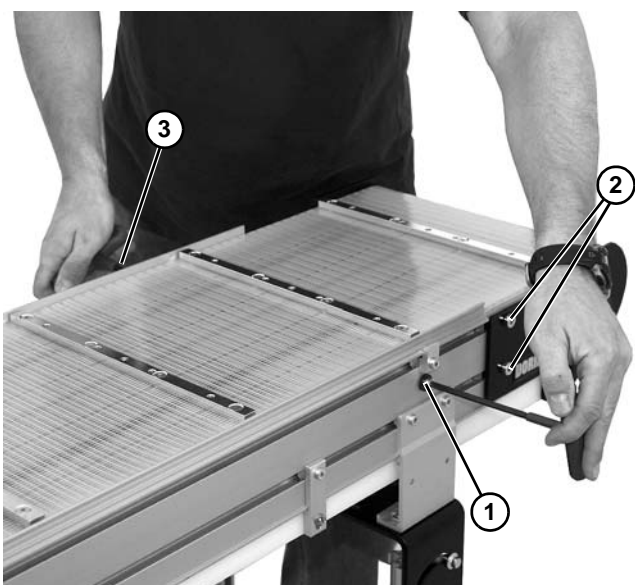

Figure 26
1. On tension end of the conveyor, identified by the pinion locking screw (Figure 26, item 1), loosen the two tail clamp bolts (Figure 26, item 2), on both sides of conveyor.
3. With 5mm hex wrench, hold pinion torque screw (Figure 26, item 3). Loosen the pinion locking screw (Figure 26, item 1) and turn the pinion torque screw (Figure 26, item 3) to extend head plate assembly.
5. After adjusting proper tensioning, tighten the pinion locking screw (Figure 26, item 1) to 69 in-lbs (7.8 Nm), and tighten tail clamp bolts (Figure 26, item 2) on both sides of conveyor to 146 in-lb (16.5 Nm).